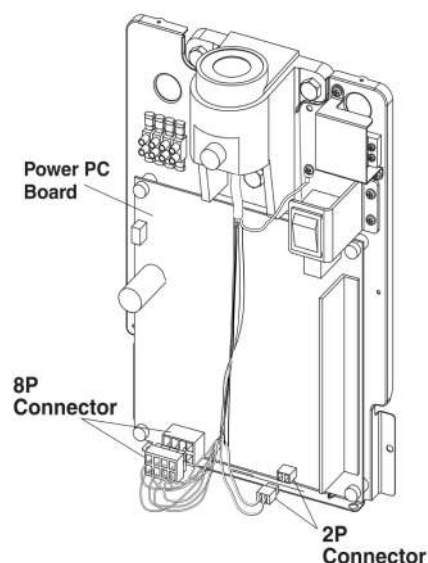

Fig. 3-8 Connecting 2P and 8P Connectors
5. Connect 2P and 8P connectors of horizontal arm cable to the respective connectors on power PC Board. (**Fig.3-8**)